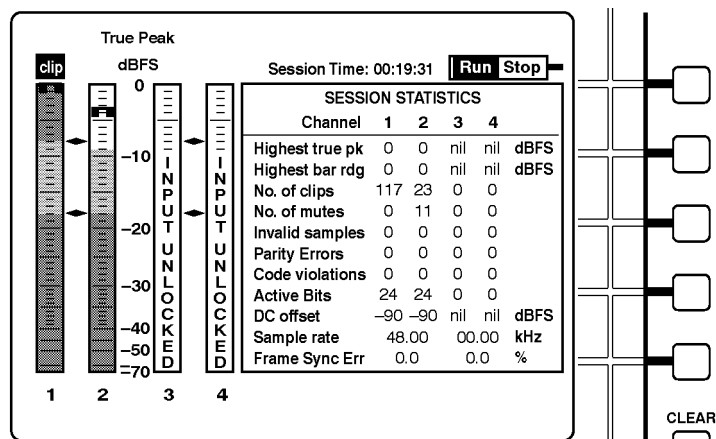

Figure 2-12: The 764 Digital Audio Monitor AUDIO/SESSION view
- 5 METER SCALE buttons.** Use the METER SCALE buttons to control the scale of the Audio view level meters. The default scale, selected with NORMAL, is illustrated in Figure 2-12. Use EXPAND and OFFSET — with the Multi-function knob — to configure the range and offset of the Custom scale. See *The Level Meters*, beginning on page 2-15, for more information.